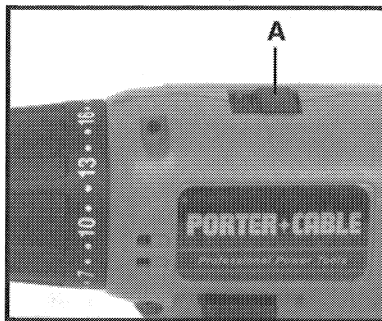

Fig. 4
The Model 872 Cordless Driver/Drill has a two-speed gear shift which provides spindle speed ranges of approximately: 0 to 400 RPM (LOW) and 0 to 1450 RPM (HIGH). To change speed ranges: release trigger switch to stop motor and then slide speed selector (A) Fig. 4, toward rear for HIGH speed or toward front for LOW speed.